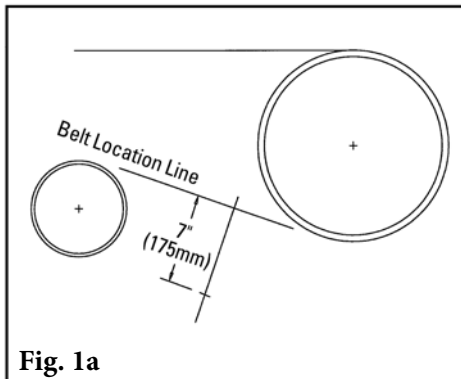
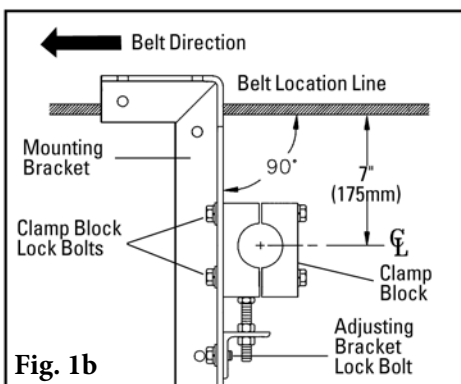
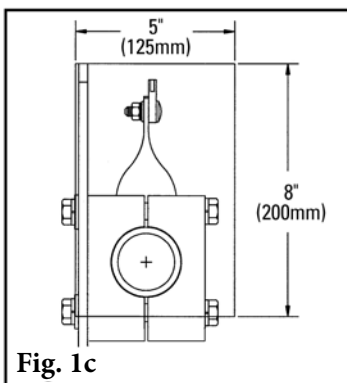

Fig. 1a
Fig. 1b
Fig. 1c
- 1. Install mounting brackets. For chute mounting:** For a chute installation a belt location line must first be established. Draw a line on the chute replicating this location. If head pulley and snub pulley are close, it may be necessary to assume an approximate belt line between the two. In the determined location draw a line perpendicular to the belt line. Make a mark on this line 7" (175mm) below belt location line (Fig. 1a). Locate a mounting bracket along this line allowing the centerline of the clamp block to align with this 7" (175mm) mark (Fig. 1b). To move the clamp blocks, if necessary, loosen the clamp block lock bolts and the adjusting bracket lock bolt and move the clamp block to a position where the center of the hole is 7" (175mm) below the bottom of the belt. Bolt or weld in place. Repeat this step on the opposite side. On one side an access hole may be required (Fig. 1c). **NOTE:** The brackets must be aligned perpendicular to the belt.
- Loosen the top adjusting bolt jam nuts 1" (25mm) on the top of the adjusting brackets (Fig. 1a).
- Loosen the clamp block lock bolts on both sides and allow the pole to move down and rest on the raised top adjusting bolt jam nuts (Fig. 1b).
- Place location marks across the mounting bracket and the clamp block for quick positioning after blade replacement (Fig. 1c).